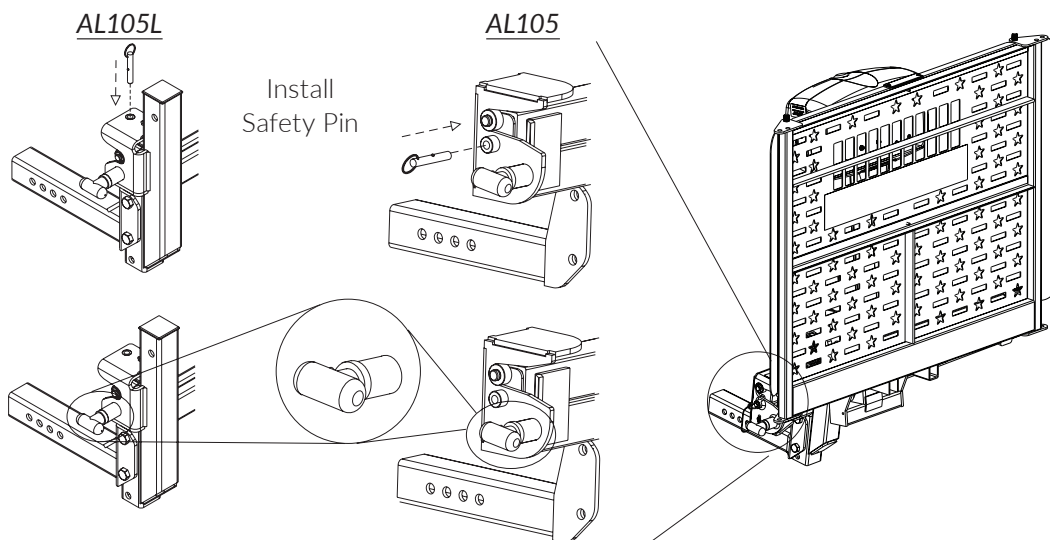

Figure 3-14
3. Install the safety pin. *See Figure 3-14.*
Safety Pin must be installed before transit to avoid damage and injury. *See Figure 3-14.*